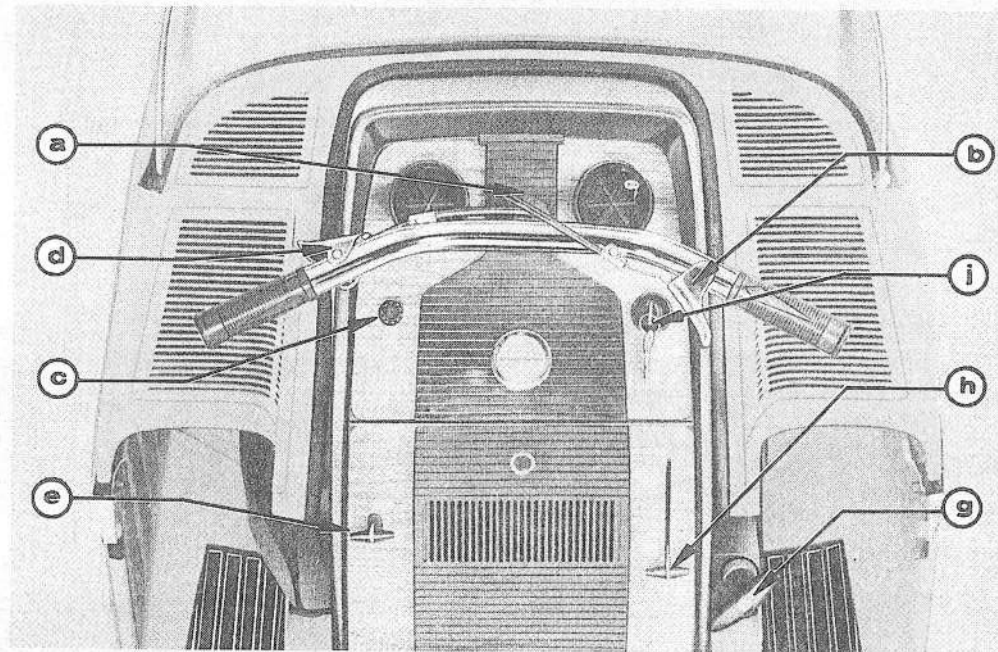

Figure 18
The Nordic Ski-Doo is steered by rotating the handle bars to the left or to the right, in order to move the skis in the direction one wishes to turn. On all Nordic models, the steering column is mounted through the dashboard and supported by a rubber damper. See Fig. 18, item a.
The accelerator handle (hand/thumb operated) is situated on the right hand steering bar. See Fig. 18, item b. When pressed, the throttle increases the speed of the engine and power is transmitted to the track. If released, the engine will return to idle speed by itself.
The brake lever (hand/thumb operated) is positioned on the left hand side of the steering bar. See Fig. 18, item d. All Nordic models are equipped with a new drum brake system. When the brake is operated, the friction shoe grips the driven pulley to cut down the speed of the Ski-Doo.
The choke knob is situated at the lower left hand side of the console, under the cigarette lighter\*. See Fig. 18, item e. When pulled open, the choke allows cold engines to start more easily.
On manual start models (Nordic 371), there is a key-operated double-contact ignition switch ("OFF" and "ON") on the top right hand side of the dashboard console. See Fig. 18, item j.
**NOTE:** *The Nordic 371/e is equipped with a triple-contact ignition switch ("OFF", "ON" and "START") located as in Fig. 18, item j. The "START" position is spring-loaded and activates the starter mechanism.*
Every model (manual or electric) is equipped with an automatic rewind starter, located on the flywheel side of the engine. The starter rope handle is at the bottom right side of the console. See Fig. 18, item g.
A small lever, mounted on the lower right hand side of the console, activates the light mechanism. See Fig. 18, item h. When this lever is pulled down, the headlamp springs up from the fiberglass hood.
**NOTE:** *To turn on the headlight, pull the "light" button situated at the upper left hand side of the dashboard. See Fig. 18, Item c.*